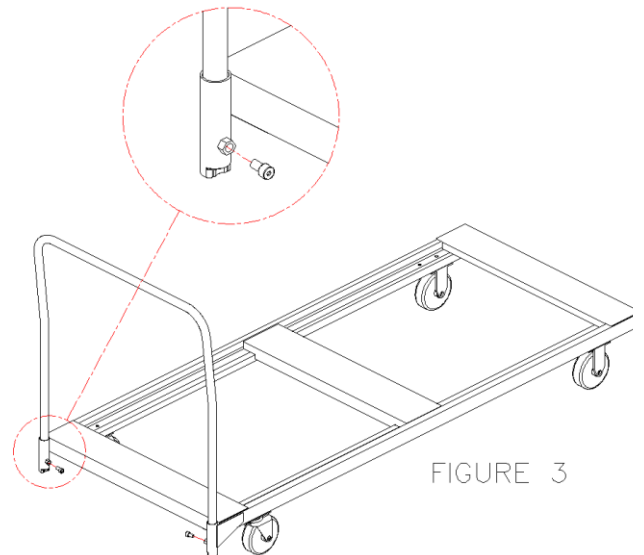

FIGURE 3
3. Start the 3/8" X 3/4" socket head bolts into the threaded nut on the sockets (if not already done-See Figure 3). Secure the handle to the Base by using the wrench provided.